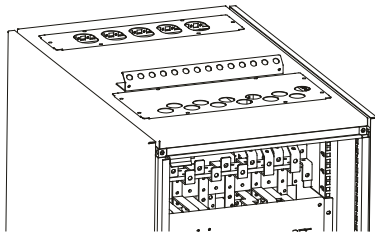

Fig. 5-6
- 1) Remove the front terminal block cover (see Fig. 5-6).